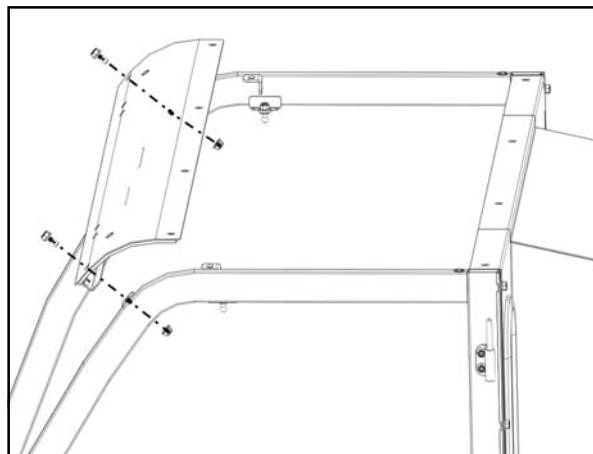

Fig. 6.1 (Windshield Support Installation)
**6.1** Install the front windshield support to the side frames with the bent flange down, using the hardware listed below. **NOTE:** Only the bottom two holes are to be fastened to the side frames at this time as the top holes will get fasteners once the roof is installed. (See Fig. 6.1)